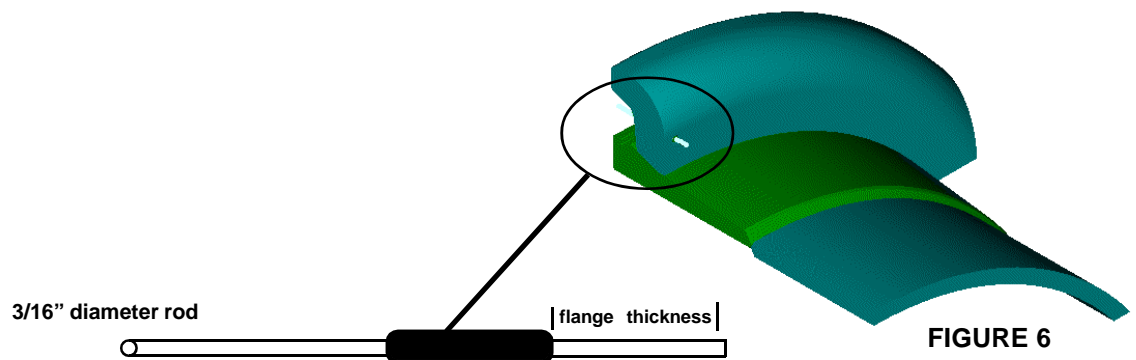

FIGURE 6
**Step 9.** In either case, horizontal or vertical, the tire should be inflated to the manufacturer's maximum recommended pounds per square inch plus 15% to properly seat the beads of the tire. To insure the beads have been properly seated, RIMEX drills two small depth gauge holes through the side of the flanges. A simple bead gauge can be fabricated from any 3/16" diameter rod or smaller. Insert gauge to test for proper tire seating (See figure 6).